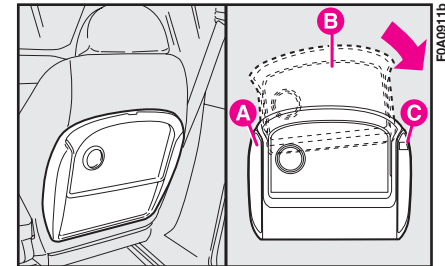

fig. 101b
- fit the shelf **B**-fig. 101b so that the support fixed pin **A** is fitted inside the shelf left rail;